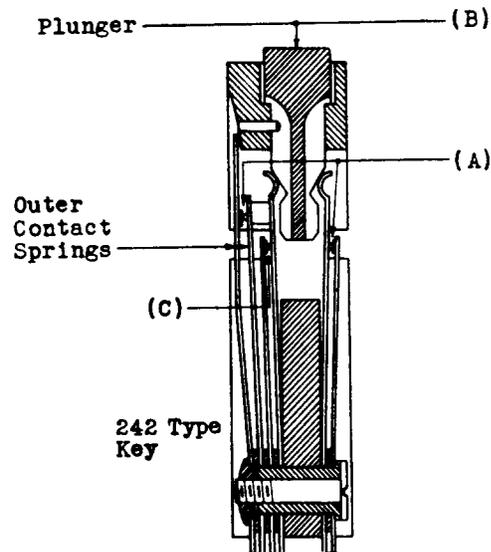
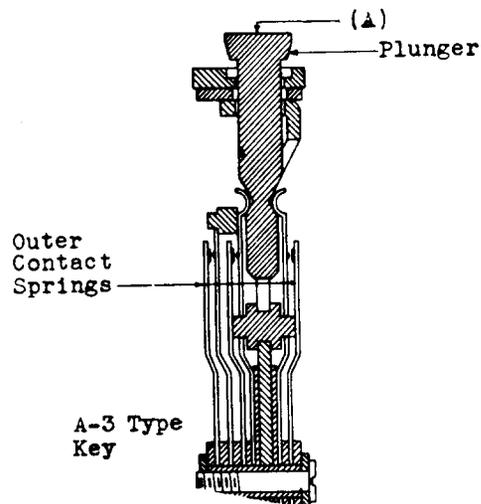

Fig. 4
Fig. 5
**\*2.06 Contact Pressure** — Fig. 4(A) — (69, 183, 492, 508, 521 and 539 Type Keys and the Outer Contacts Only of the 242 Type Key) When
(a) **Contact Follow:** Fig. 4(A) — (69-, 492-, 508-, 521-, and 539-type Keys and Outer Contacts Only of the 242-type Keys) — There shall be a follow on all normally open contacts after making of
(b) Fig. 4(C) — (Inner Contacts of the 242 Type Key) These contacts shall have as much follow as possible.
**2.09 Plunger Operate Pressure** — Fig. 4(B), Fig. 5(A) — The pressure required to depress a plunger to its extreme operated position shall be: